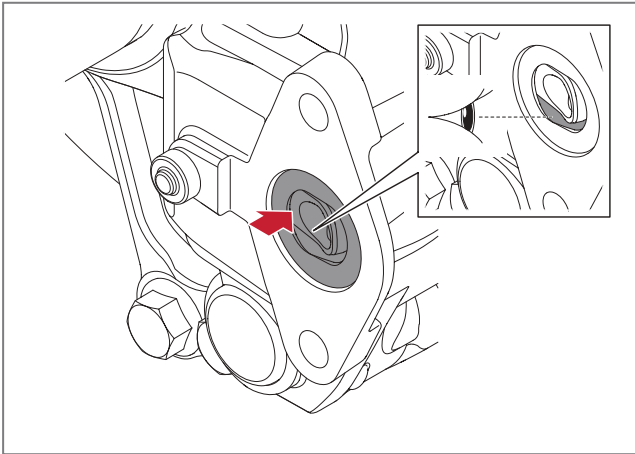

Fig. 26 - Brake chamber aperture
10. Check through the aperture in the brake chamber attachment flange for moisture/corrosion, see ► *Fig. 26*. It is essential to look inside the aperture and not just on the surface. In the event of corrosion, further inspection is necessary. In the event that water has ingressed causing internal corrosion/damages to the mechanism, replace the brake calliper to avoid malfunction. For requisite measures, see "Replacing the brake calliper".